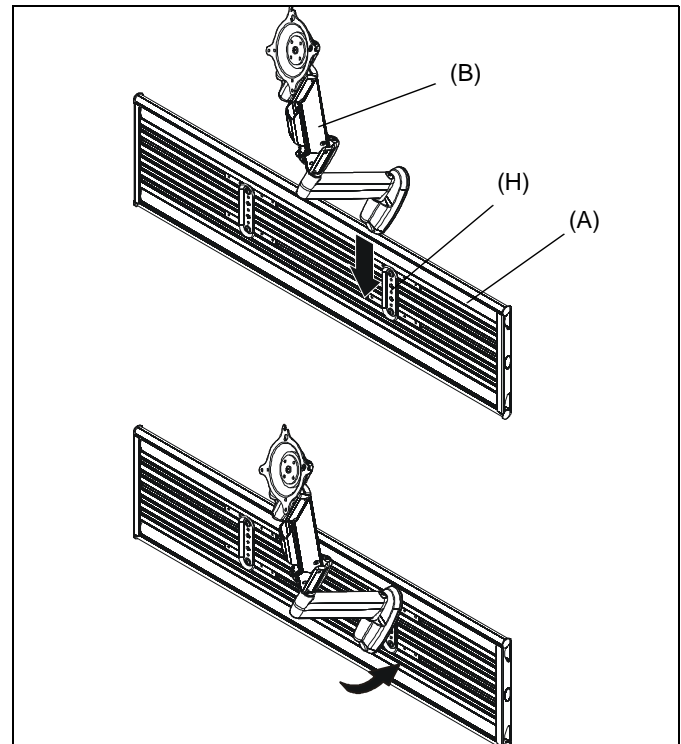

Figure 36
5. Insert top of Centris display mount (B) over lip on top of wall plate (H) on preferred location. (See Figure 36)
6. Swing Centris display mount (B) down flush against wall track accessory (A). (See Figure 36)